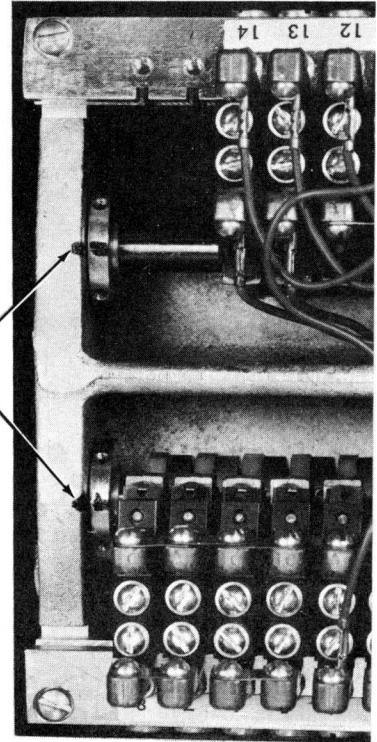

Figure 5-3. PACB Timing Marks
(7) PACB Drive Belt
- Slip the new belt on and reinstall white nylon gear. Be sure timing marks are rematched. NOTE: On the PACB shafts there are two collars; each has a scribed line. There are also two scribed lines on the casting which will coincide with the collar lines at 0° on the punch index (Figure 5-3). Set the two CB shaft lines to line up with the scribed lines on the casting, set the punch index on 0°, then slip the PACB belt over the punch pulley. If care is taken the PACB unit can be tightened and both units will be in time.
(8) Second Stepped Feed Roll Drive Belt
(9) PLCB Drive Belt